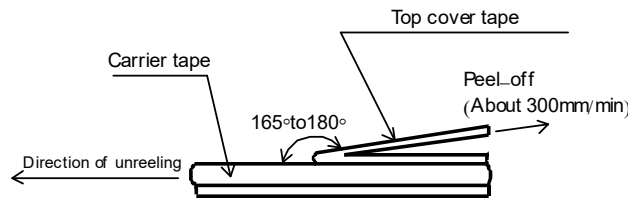
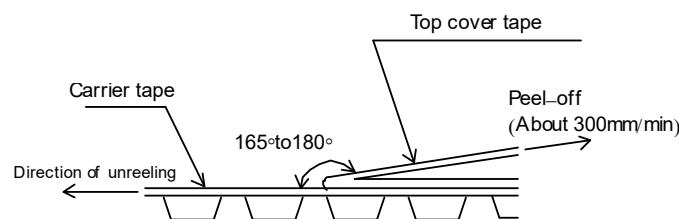

Figure-6
Figure-7
- 5). The peel strength of the top cover tape shall be within 0.1N to 0.5N on the test method as shown in the following RMCH10,16,20,32: Figure-6, RMCH35: Figure-7.